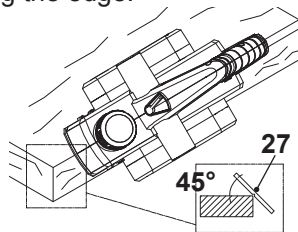

Fig. 11
1. Place the V-groove (27) onto the edge of the workpiece (Fig. 11).